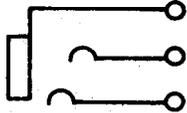

Fig. 10—292 Jack
2.10 **292:** This strip-mounted jack (Fig. 10) is used with the 309 plug. This jack is furnished only on orders for jack mountings. The terminals of the tip and ring springs will accommodate two No. 19B and S gauge wires. This jack is used with the 113, 138, and 139 type jack mountings.